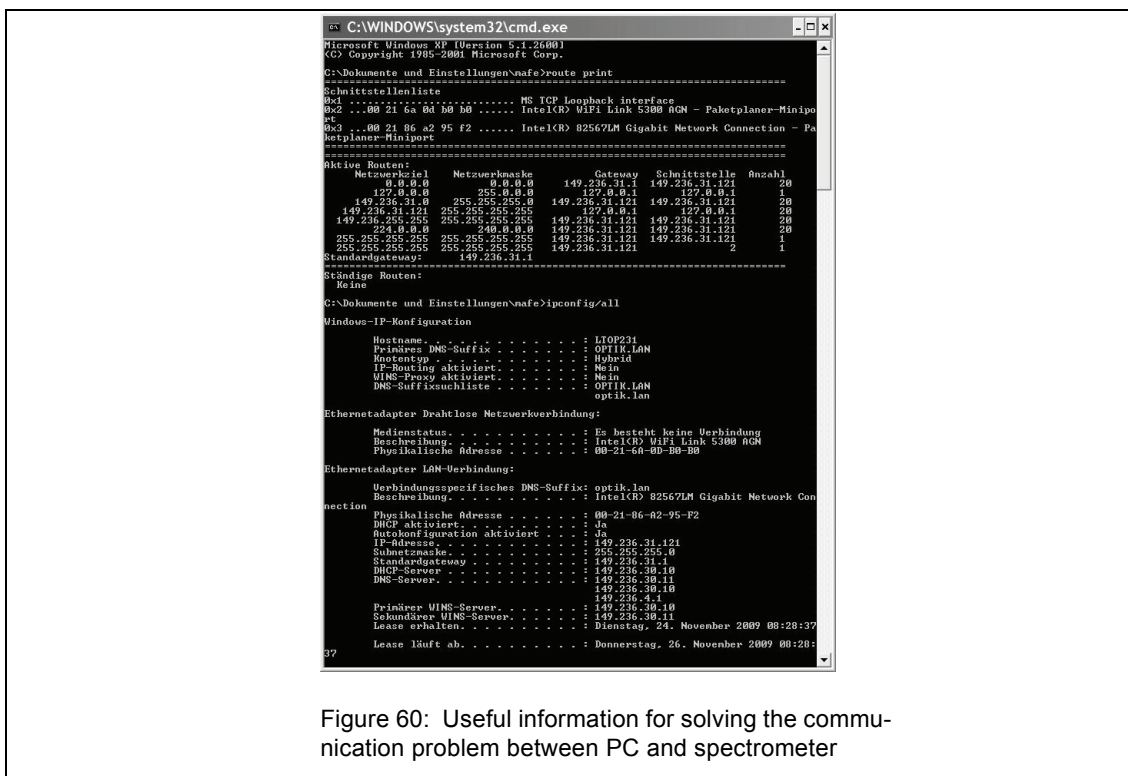

Figure 60: Useful information for solving the communication problem between PC and spectrometer
- 6 Take a screenshot of the dialog (fig. 60) and provide it for your network administrator.